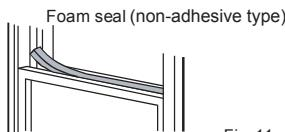

Fig.11
5. Cut the foam seal (non-adhesive type) to an appropriate length and seal the open gap between the closed top window sash and outer window sash. See Fig.11.